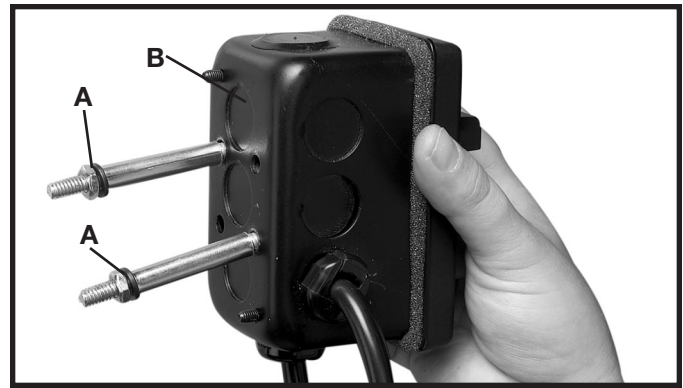

Fig. 34
1. Remove the two outer hex nuts and lock washers (A) Fig. 34 from the two screws extending out from the back of the switch box (B).